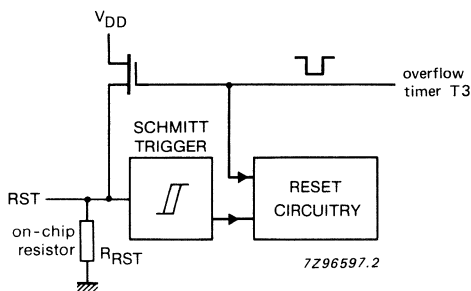

Fig. 16 On-chip reset configuration.
**Reset circuitry** (see Fig. 16)